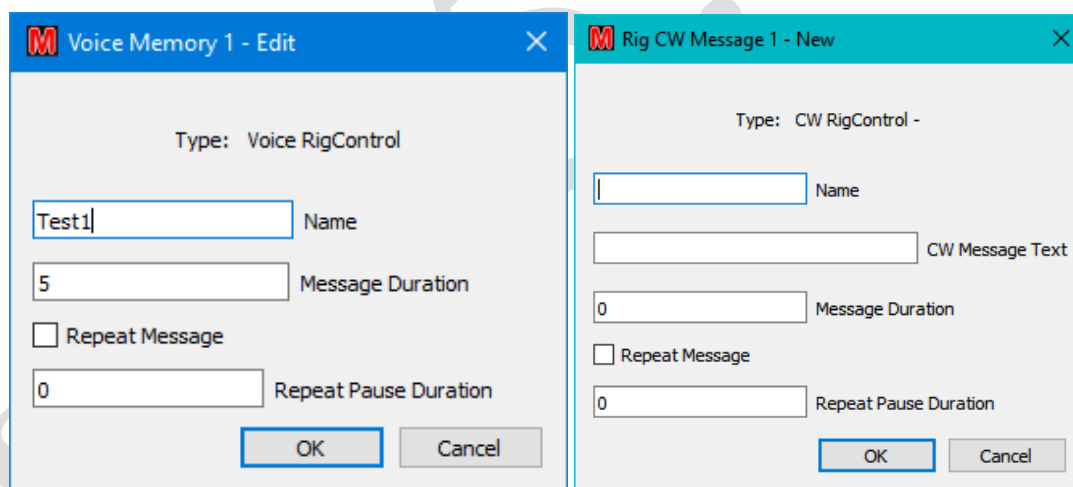

Figure 124 – Setup for RigControl connections
- **New:** Create a new user command (see Figure 124).